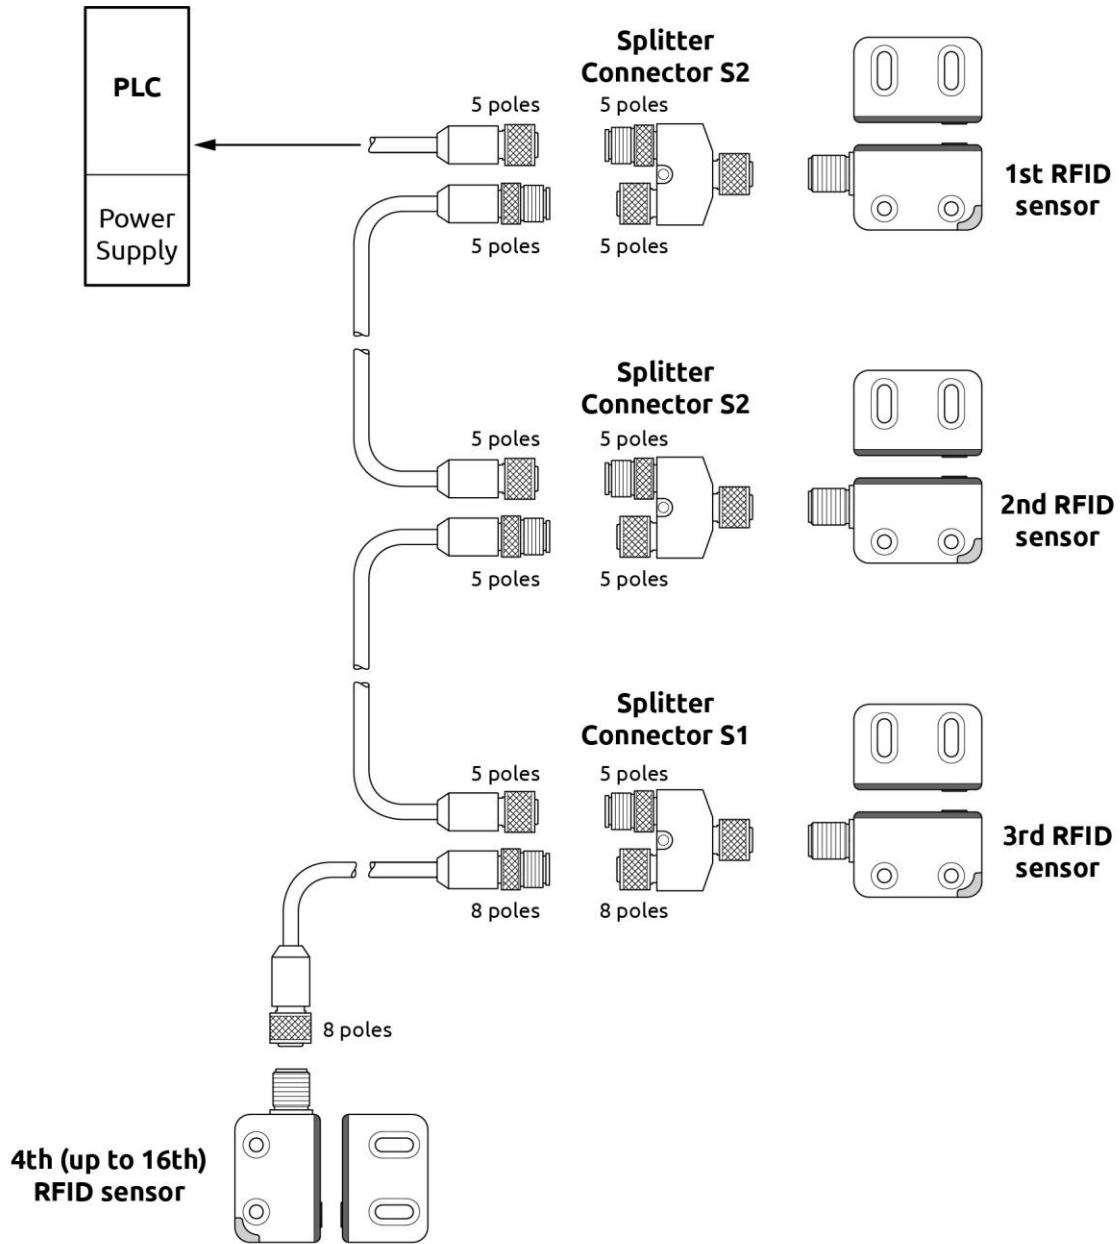
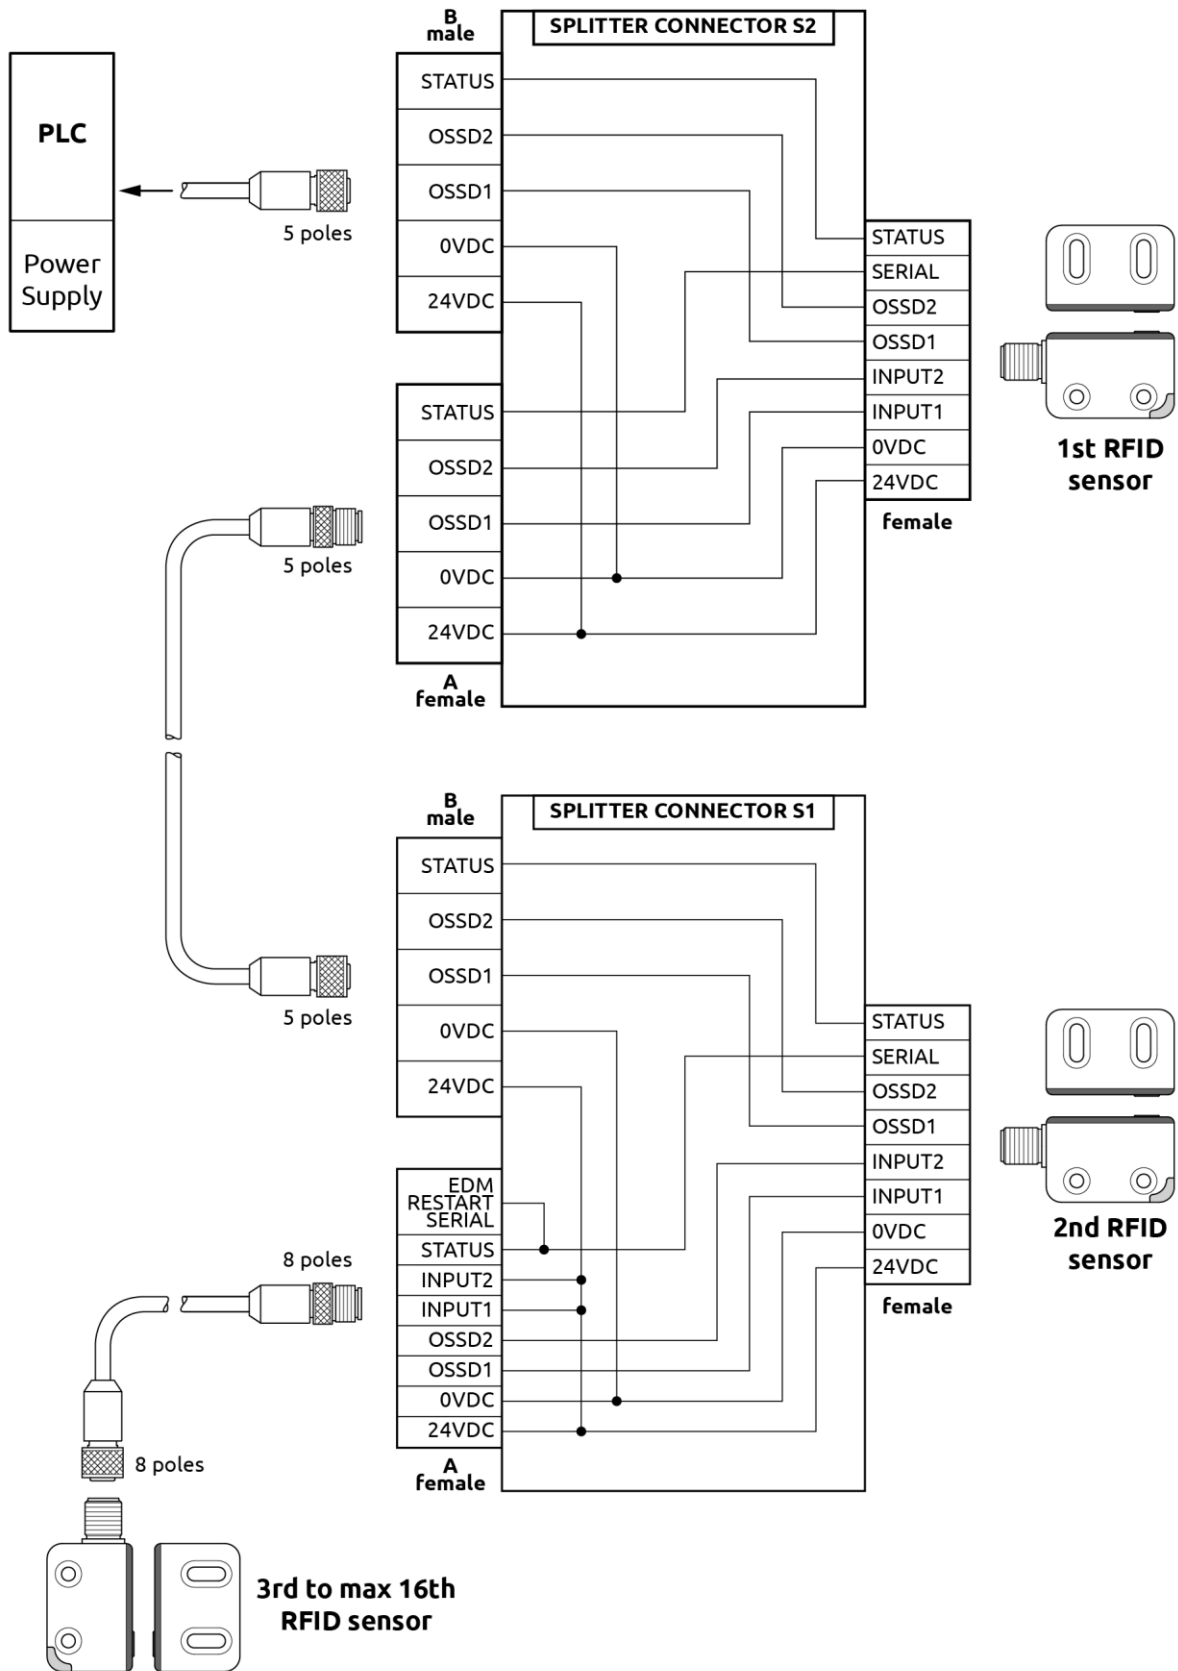

Figure 29 - Serial mode (Automatic)
Figure 30 - Serial mode wiring (Automatic)
- ➔ For a quicker and safe connection, Reer recommends using its splitter connectors as showed in Figure 29 and Figure 30.